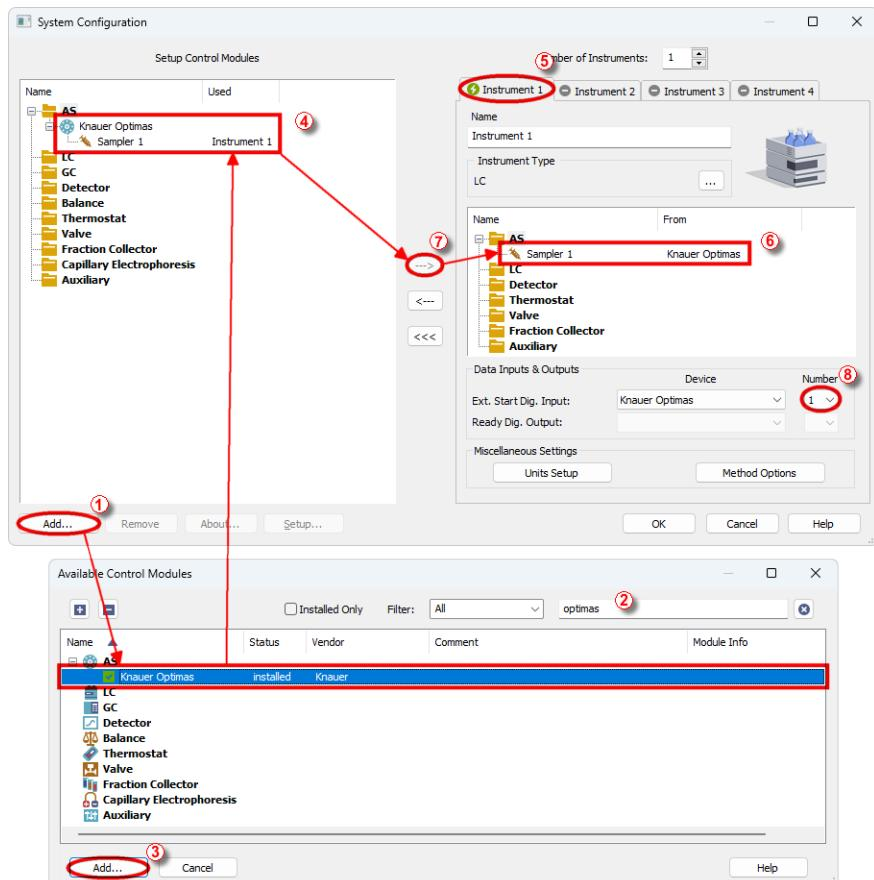

Fig. 4: System Configuration
- Press the **Add** button ① (see Fig. 4 on pg. 7.) to invoke the **Available Control Modules** dialog.
- You can specify the searching filter ② to simplify the finding of the driver.
- Select the **Optimas** sampler and press the **Add** ③ button.